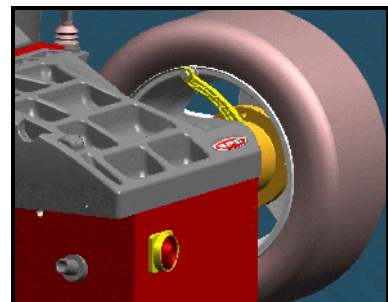

Fig. 32: Planarity
6.5.3 Put the rod as in the fig. 32 and turn the wheel for 360°.